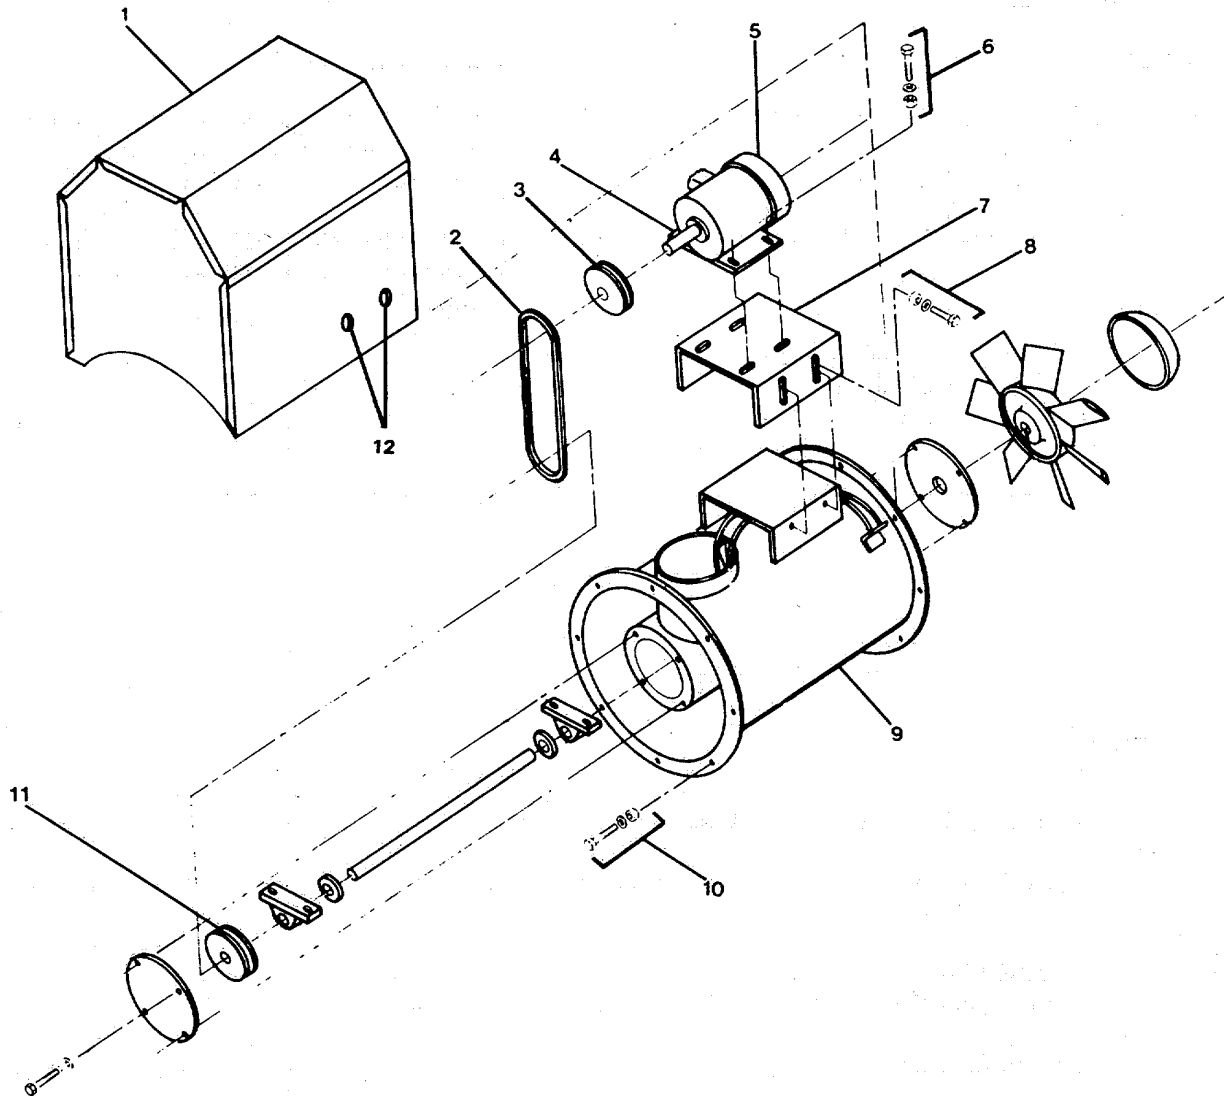

Figure 2-15. Ventilating Fan (Supply Fan #4).
- (2) Install the shaft (16) and bearings (12, 22) assembly into the motor.
- (3) Install washer (23) and front end bracket (5). Install bracket bolt (6).
- (4) Install outer fan (3) on motor shaft and install fan clamp (24).
- (5) Align grease entry tube (4) and install fan cover (2). Install fan cover bolts (7).
- (6) Install back end bracket (11) and dirt deflector (14). Install bolts (17).
- (7) Position woodruff key (15) in shaft spline.
- (8) Install motor (1) onto fan unit (paragraph 3-17).
**2-25. Repair Fan, Ventilating (Supply Fan #4) (Bowthrustrer Room). (FIGURE 2-15)**
- c. Refer to paragraph 2-25 and FIGURE 2-15, and remove the motor as follows:
- (1) Loosen tension on V-belt. Remove belt from around motor pulley (3, FIGURE 2-15).
- (2) Use a puller and remove the motor pulley (3) and machine key (4).
- (3) Remove motor mounting bolt, nut, and lockwasher assemblies (6).
- (4) Remove the motor (5) from the motor base (7).